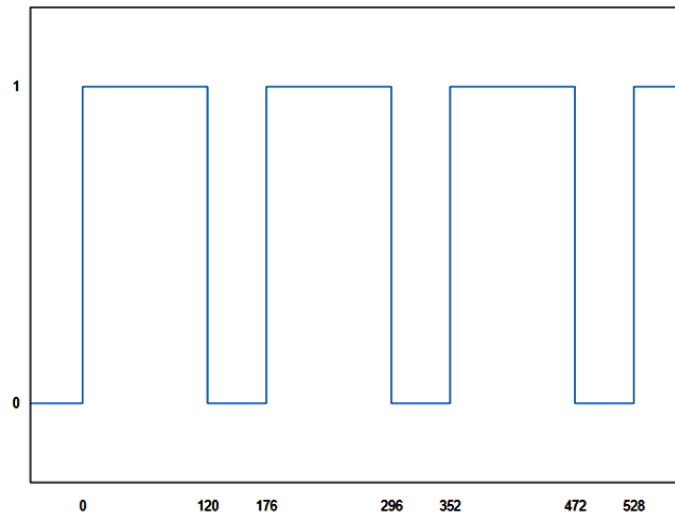

Figure 6: Output=1 for 120ms and 0 for 56ms and the total period=176ms
3. **SPD= 4**, in this case our output should have a rotation speed of 2000RPM, to obtain that speed we need to have V_{avg} equal to 150V, by substituting $T=176$ in the equation $V_{avg} = \frac{220 * t_{on}}{T} = 150$ we obtain $t_{on}=120$ and since each interrupt is 4ms long we have to set TMR2VAR to 30 ($30*4=120$), after the 120ms is done TMR2 will be disabled and TMR0 will be enabled for 56ms to continue the 176ms cycle, to obtain a 56ms delay we need to set TMR0VAR to 14 ($14*4=56$), as in Figure 6.